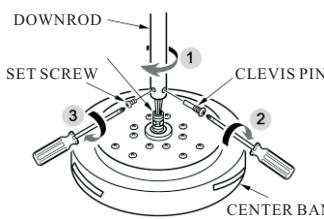

FIG.3
3. Align the clevis pin holes in the downrod with the holes in the shaft. The clevis pin must pass through the holes in the shaft and the downrod. Then tighten set screws and clevis pin against the down rod. (see fig 3)